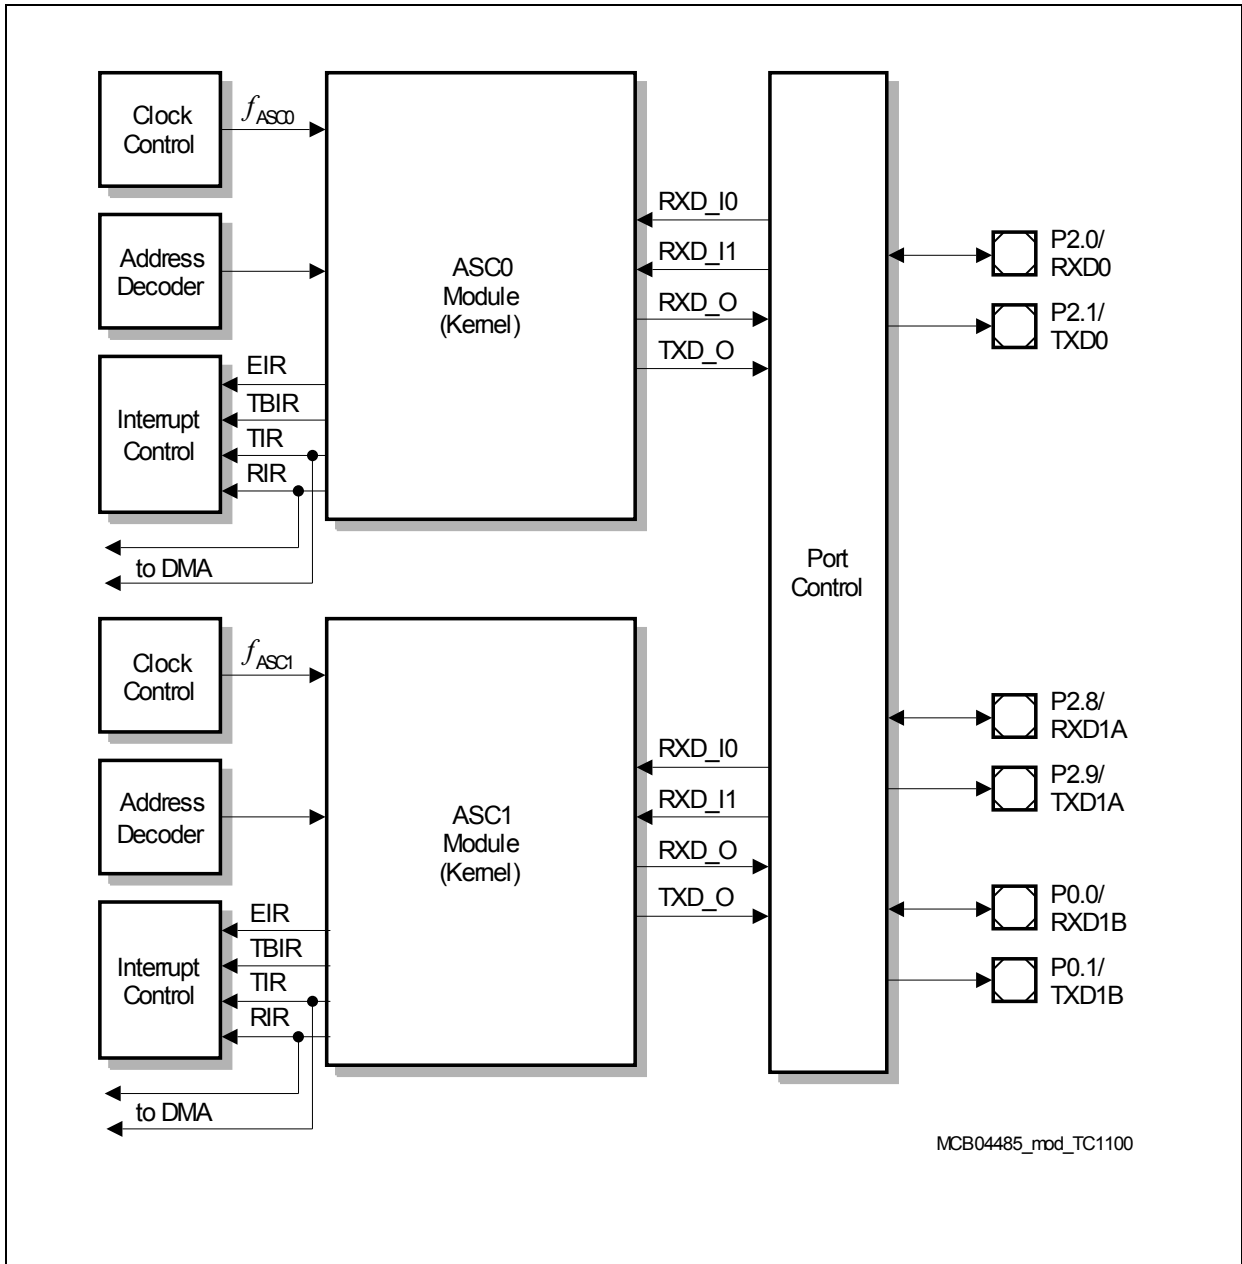

Figure 3-5 General Block Diagram of the ASC Interfaces
**Figure 3-5** shows a global view of the functional blocks of two Asynchronous/Synchronous Serial interfaces (ASC0 and ASC1).